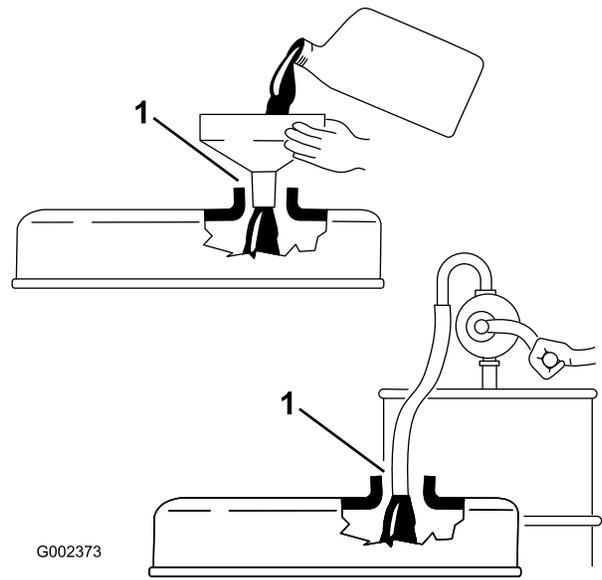

Figure 44
3. If the oil level is low, remove the filler cap (Figure 44) and add enough oil to raise the level-of-the-oil to the Full mark on the dipstick.
Important: When adding engine oil or filling oil, there must be clearance between the oil fill device and the oil fill hole in the valve cover as shown in Figure 44. This clearance is necessary to permit venting when filling, which prevents oil from overrunning into the breather.